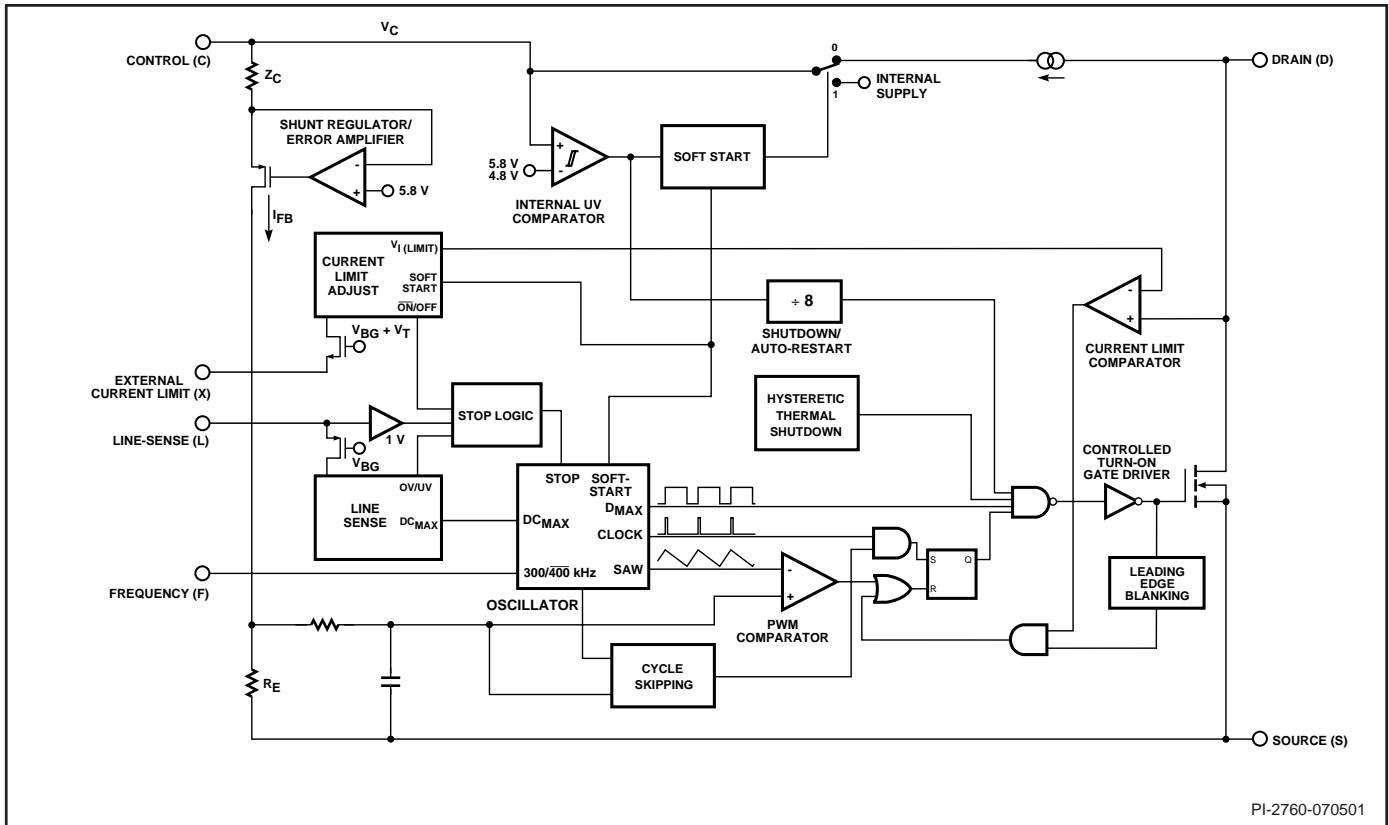
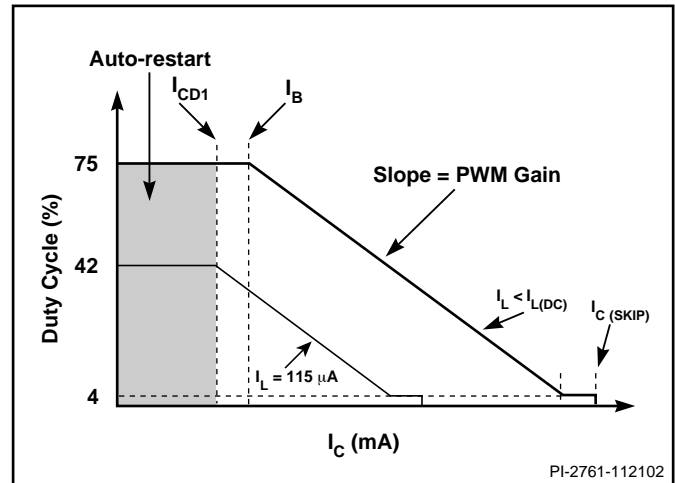

Figure 2. Functional Block Diagram.
Figure 4. Relationship of Duty Cycle to CONTROL Pin Current.
*DPA-Switch* is an integrated switched mode power supply chip that converts a current at the control input to a duty cycle at the open drain output of a high voltage power MOSFET. During normal operation the duty cycle of the power MOSFET decreases linearly with increasing CONTROL pin current as shown in Figure 4. A patented high-voltage CMOS technology allows both the high-voltage power MOSFET and all the low voltage control circuitry to be cost effectively integrated onto a single monolithic chip.
duty cycle of the MOSFET from zero to the maximum value over approximately 5 ms. The high voltage current source is turned off at the end of the soft-start. If no external feedback/supply current is fed into the CONTROL pin by the end of the soft-start, the CONTROL pin will start discharging in response to the supply current drawn by the control circuitry and the gate current of the switching MOSFET driver. If the power supply is designed properly, and no fault condition such as open loop or overloaded output exists, the feedback loop will close, providing external CONTROL pin current, before the CONTROL pin voltage has had a chance to discharge to the lower threshold voltage of approximately 4.8 V (internal supply under-voltage lockout threshold). When the externally fed current charges the CONTROL pin to the shunt regulator voltage of 5.8 V, current in excess of the consumption of the chip is shunted to SOURCE through resistor  $R_E$  as shown in Figure 2. This current flowing through  $R_E$  controls the duty cycle of the power MOSFET to provide closed loop regulation. The shunt regulator has a finite low output impedance  $Z_C$  that sets the gain of the error amplifier when used in a primary feedback configuration. The dynamic impedance  $Z_C$  of the CONTROL pin together with the external CONTROL pin capacitance sets the dominant pole for the control loop.
The pulse width modulator implements voltage mode control by driving the output MOSFET with a duty cycle inversely proportional to the current into the CONTROL pin that is in excess of the internal supply current of the chip (see Figure 4). The excess current is the feedback error signal that appears across  $R_E$  (see Figure 2). This signal is filtered by an RC network with a typical corner frequency of 30 kHz to reduce the effect of switching noise in the chip supply current generated by the MOSFET gate driver. The filtered error signal is compared with the internal oscillator sawtooth waveform to generate the duty cycle waveform. As the control current increases, the duty cycle decreases. A clock signal from the oscillator sets a latch that turns on the output MOSFET. The pulse width modulator resets the latch, turning off the output MOSFET. Note that a minimum current must be driven into the CONTROL pin before the duty cycle begins to change.
To maintain power supply output regulation, the pulse width modulator reduces duty cycle as the load at the power supply output decreases. This reduction in duty cycle is proportional to the current flowing into the CONTROL pin. As the CONTROL pin current increases, the duty cycle reduces linearly towards a minimum value specified as minimum duty cycle,  $DC_{MIN}$ . After reaching  $DC_{MIN}$ , if CONTROL pin current is increased further by approximately 2 mA, the pulse width modulator will force the duty cycle from  $DC_{MIN}$  to zero in a discrete step (refer to Figure 4). This feature allows a power supply to operate in a cycle skipping mode when the load consumes less power than the *DPA-Switch* delivers at minimum duty cycle,  $DC_{MIN}$ . No additional control is needed for the transition between normal operation and cycle skipping. As the load increases or decreases, the power supply automatically switches between normal and cycle skipping mode as necessary.
The same resistor used for UV and OV also implements line voltage feed forward that minimizes output line ripple and reduces power supply output sensitivity to line transients. This feed forward operation is illustrated in Figure 4 by the different values of  $I_L$ . Note that for the same CONTROL pin current, higher line voltage results in smaller operating duty cycle. As an added feature, the maximum duty cycle  $DC_{MAX}$  is also reduced from 75% (typical) at a voltage slightly higher than the UV threshold to 33% (typical) at the OV threshold (see Figures 4, 7). Limiting  $DC_{MAX}$  at higher line voltages helps prevent transformer saturation due to large load transients in forward converter applications.  $DC_{MAX}$  of 33% at the OV threshold was chosen to ensure that the power capability of the